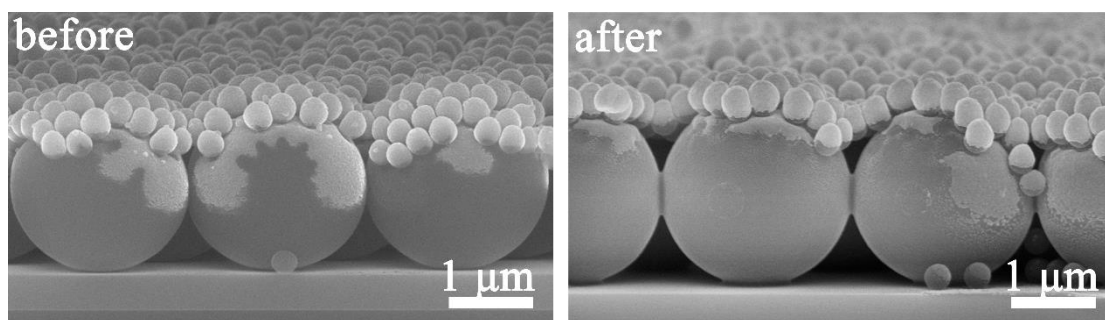

Figure S3 SEM images of SLNAs-Ag which before immersed the R6G solutions and after the Raman tests.
- **Figure S3.** SEM images of SLNAs-Ag which before immersed the R6G solutions and after the Raman tests.